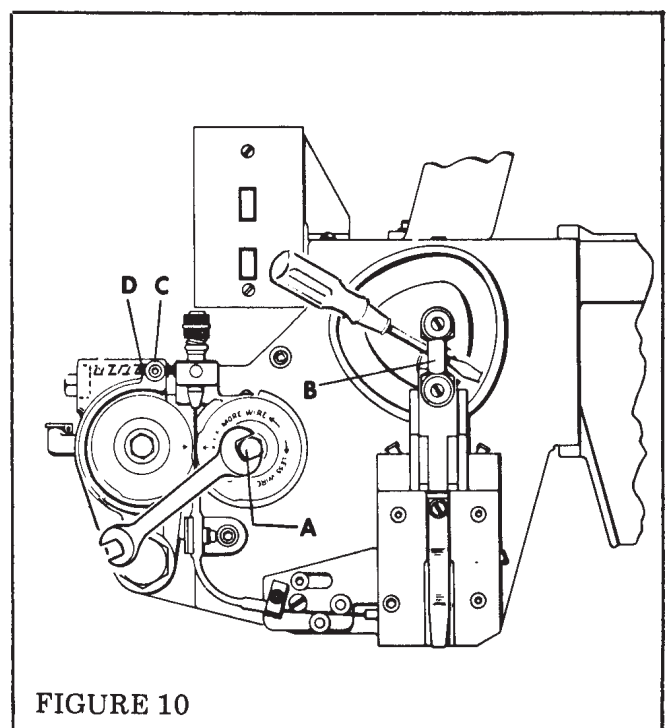

FIGURE 10
Turn off the motor and loosen the feed wheel screw (Index A, Figure 10). Since turning the screw will cause the gears to rotate unless held in place, it is necessary to apply clockwise pressure on a screwdriver inserted in the driver link (Index B, Figure 10). The feed wheel can now be turned as required. Usually a movement of 1/32" to 1/16" is sufficient. The bolt should be tightened while applying counterclockwise pressure on the screwdriver. This operation should be repeated until the length of the stitch legs is equal or not more than a 1/64" variation exists. If you are unable to get proper leg length, check spacing between the feed wheels.
(1) Loosen lock screw (Index C, Figure 10). (2) Turn set screw (Index D, Figure 10) to desired position. (3) Lock set screw by tightening lock screw. (4) Turn flywheel until formers and driver are at the highest point of their stroke. Occasionally, a groove is worn in one or both of the feed wheels. This causes the wire to slip and results in uneven leg lengths.